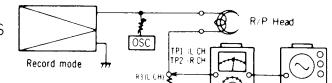

Fig. 21
| | <p>Measurement</p> <ol style="list-style-type: none"> Test equipment connection is shown in fig. 21. Place UNIT into record mode. Read voltage on VTVM and calculate bias current by following formula. $\text{Bias current (A)} = \frac{\text{Value read on VTVM (V)}}{10 (\Omega)}$ <p style="border: 1px solid black; padding: 5px; text-align: center;">Standard value: around $600\mu\text{A}$ (Metal position), around $310\mu\text{A}$ (Normal position), around $350\mu\text{A}$ (Fe-Cr position), around $420\mu\text{A}$ (CrO₂ position)</p> | | | | |